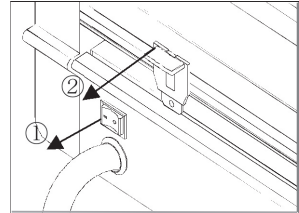

Figure 2
Located on the rear of the machine. "I" (on) "O" (off). (Fig. 2)
Used to cut off the laminated web. (Fig. 2)
1. Turn the laminator ON (I) located on the rear of the machine. (Fig. 2)